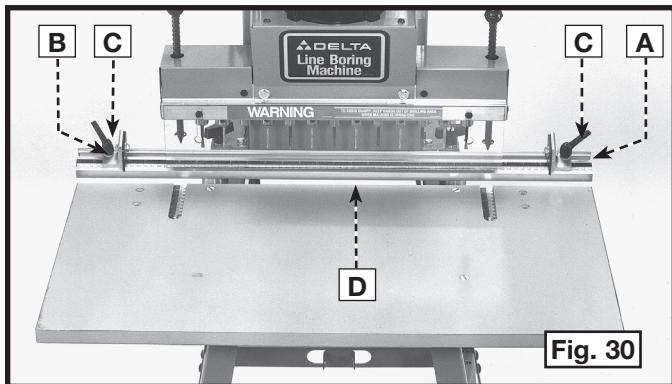

Fig. 30
Two fence stops - one right (A) Fig. 30, and one left (B) - are supplied with your boring machine. A scale (D) with a "0" mark in the center is provided on the fence. The fence extends 15" (381 mm) to the left and right. The stops (A) and (B) can be moved anywhere along the fence by loosening the lock handles (C), moving the stops (A) and (B), and tightening lock handles (C).
NOTE: The lock handles (C) Fig. 30 are spring-loaded. They can be repositioned by pulling out on the handle and moving the hub of the handle on the nut located underneath the hub.